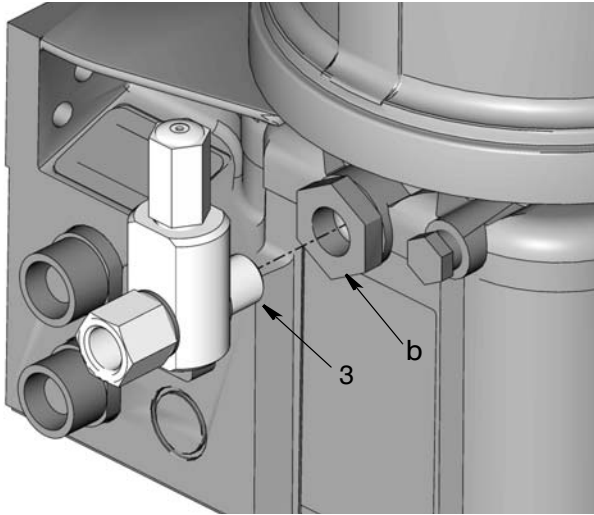

FIG. 4
6. Install banjo bolt (3) into pump element (b) (FIG. 4).